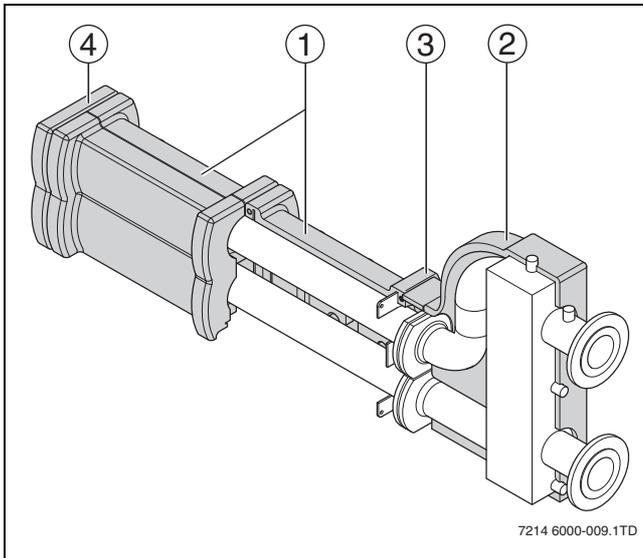

Fig. 9 Low loss header
- ▶ Install the front insulation of the low loss header. If required, trim the insulation so that it is straight (→ fig. 9, [3]).
- ▶ Install the end cover over the header (→ fig. 9, [4]).